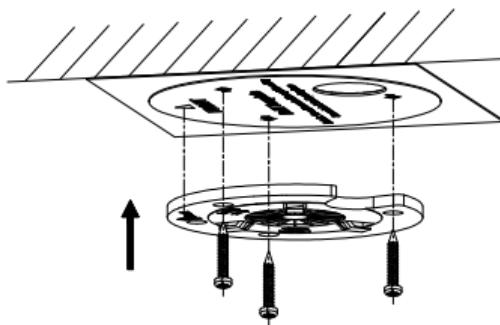
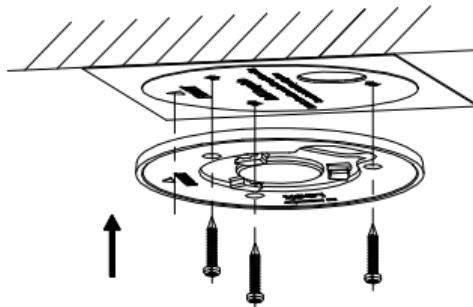

Figure 2-24 For PTZIP4XX Series PTZ Camera
Figure 2-25 For PTZIP4XX Series (IR) PTZ Camera
4. Attach the base plate to the ceiling and secure it with the supplied three self-tapping screws by aligning with three screw holes in the ceiling, and the front arrows on the drill template and base plate should be aligned together as well, as shown in Figure 2-24 and Figure 2-25.